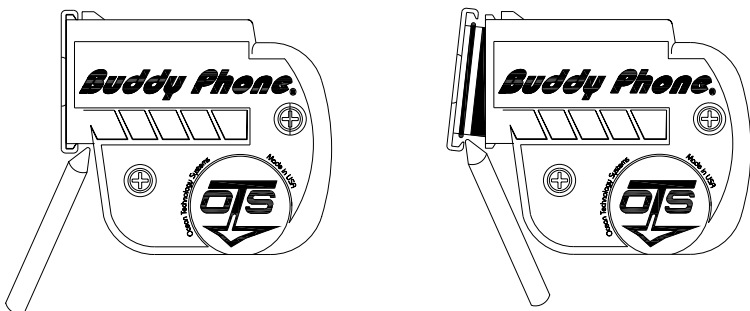

FIGURE 2
1. Using a pencil or pen, pry back the battery plug until the latch releases on one side (Figure 2).